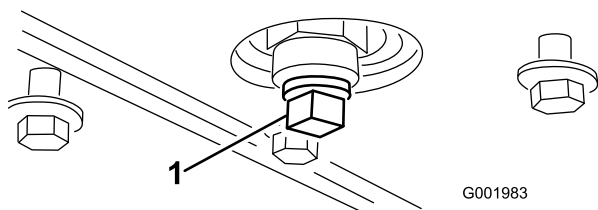

Figure 50
5. Remove the drain plug (Figure 50).